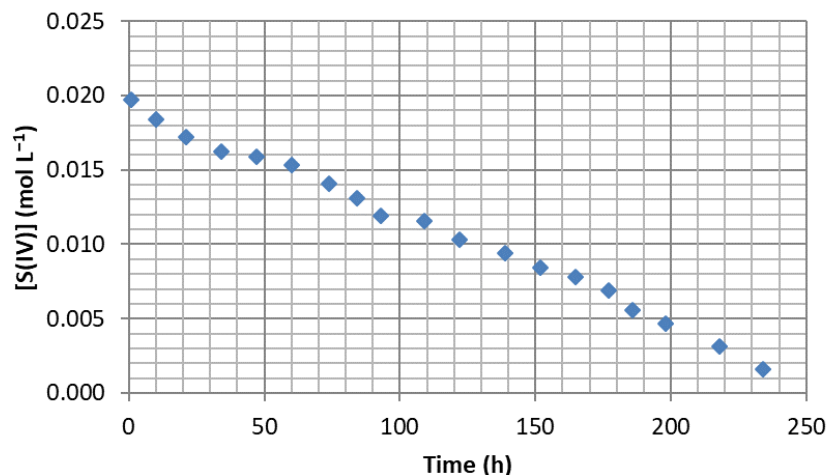

Figure 1:  $[\text{S(IV)}]$  as a function of time for the fructose - glycine - sodium metabisulphite  $\text{S(IV)}$  reaction
The first experiment (A) was carried out by adding  $n_{\text{Fru,A,0}} = 1 \text{ mol}$  of fructose,  $n_{\text{Gly,A,0}} = 0.5 \text{ mol}$  of glycine and  $n_{\text{S(IV),A,0}} = 0.02 \text{ mol}$  of **S(IV)** at the same time to a 1 L sodium acetate/acetic acid buffer. Every 15 hours (roughly), an aliquot of 1 mL was extracted from the reactive medium, put in a cell of  $l = 1 \text{ cm}$  and a drop of Ellman's reagent was added. The absorbance was measured after stirring. Results obtained from this experiment are shown in figure 1.
4. **Choose** a wavelength to measure the absorbance of the aliquots of experiment (A).